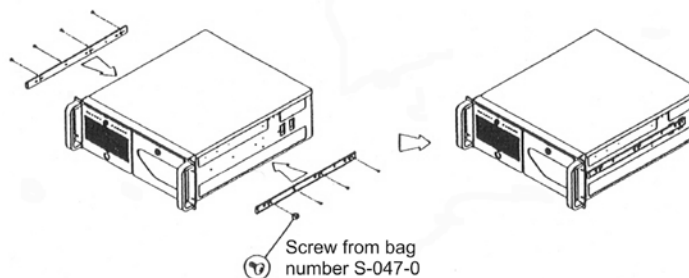

Figure 2 – Inside Rail Mounting Detail
6. Using four mounting screws from hardware bag S-047-0, attach an inside rail to the left side of the computer chassis as shown in figure 2. Note – the rubber bumper on the inside rail slide needs to be facing toward the front of the computer and the cut-out portion of the rail release latch should be pointing downward indicating that the slide rail has been properly mounted to the correct side of the computer chassis.
7. Repeat step 6 for the right side on the computer and refer to figure 2 as necessary.